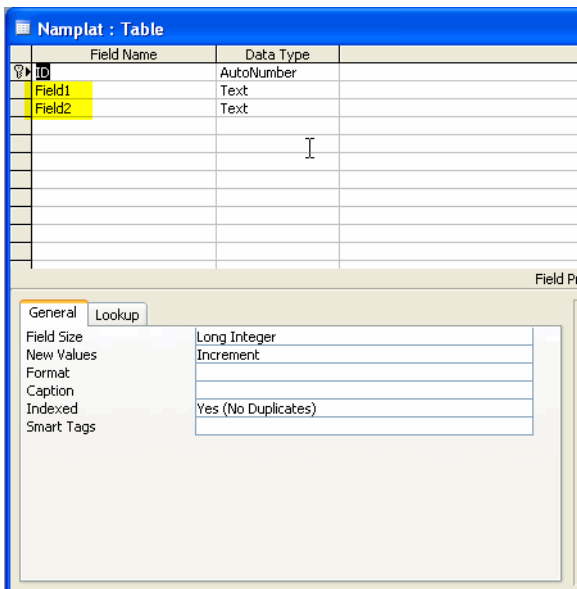

Figure 5-10a
5.2.20. Open the table and go into design view as you did in the tables you already imported. (Figure 5-10a)